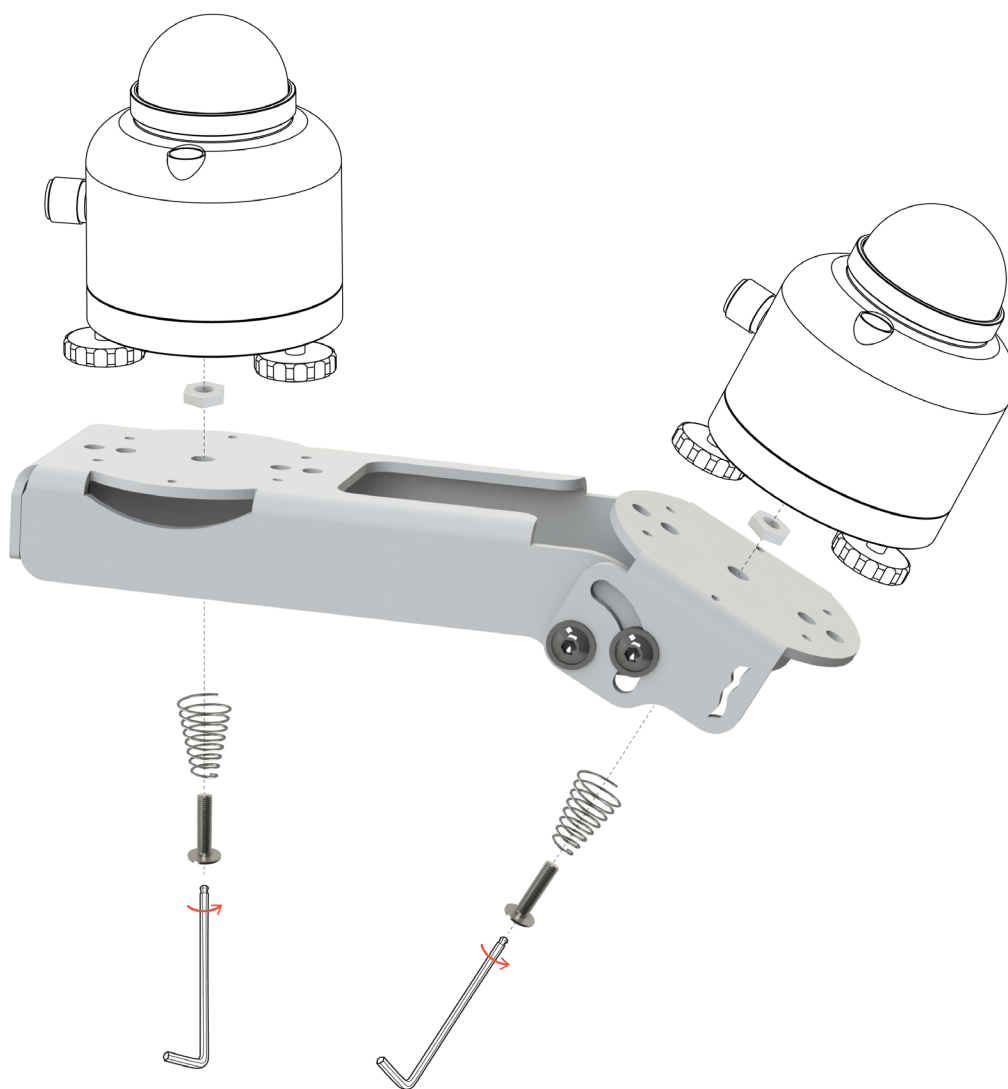

Figure 4.2.2 *Installation of two pyranometers on PMF02 using the central spring-loaded bolts, step 3a*
- 3a. Install the two sensors using the spring-loaded bolts: Attach the M6x25 bolt with the spring to the bracket and lock it using the M6 nut. Put the sensor onto the bolt, place the sensor feet in the designated holes. Turn the bolt further into the sensor bottom plate by using a 4 mm hex key. See Figure 4.2.2.